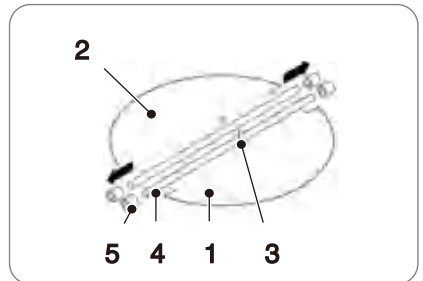

Fig. 5.8
- If you have not already done this (see Fig.5.8), mount the V-flap on the hood air outlet then connect the duct to the air outlet as shown.